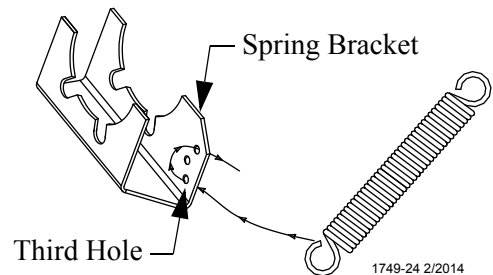

Figure 57. Spring Bracket Assembly
4. Assemble the Spring to the Spring Bracket by sliding the loop of the spring up through the third hole in the bracket, see **figure 57**.